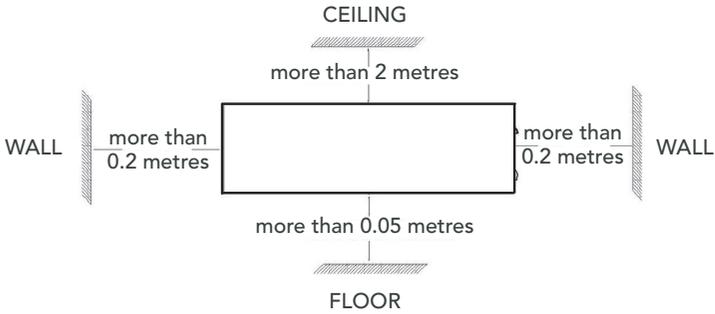

Fig. 2
- 1 When fitted, adequate space must be left around the heater; see Fig. 2.